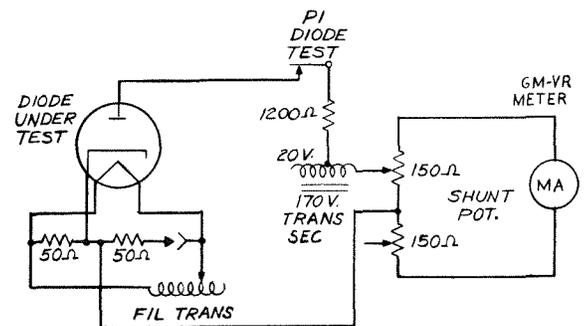

Fig. 4 - Diode Test Circuit
2.25 Diode Test Circuit: When testing the diode section of a multipurpose tube, or small hot cathode diode, the circuit (Fig. 4) is the same as that described in 2.24 except that the ac potential is decreased from 35 to about 18 volts, and the current limiting resistance is changed to 1200 ohms. Only one plate of the